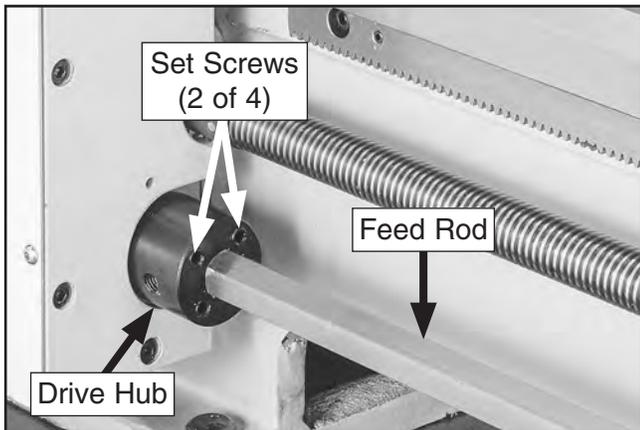

Figure 118. Feed rod clutch.
This lathe is equipped with a feed rod clutch, shown in **Figure 118**, that connects the feed drive hub with the feed rod through a set of spring-loaded ball bearings. This clutch helps protect the apron feed system from overload. The feed rod clutch comes set from the factory, and unless there is a problem, it needs no adjustment.
- If clutch slips during normal work loads, increase clutch spring pressure by tightening each of four clutch drive set screws shown in **Figure 118** one full turn, then recheck for slippage.